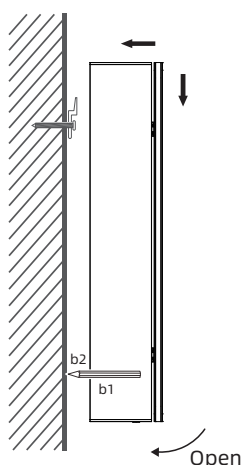

Fig. 3
- ① Attach the mirror cabinet to the bar as shown in Fig. 3, open the cabinet door, and mark on the wall (b2) with a pencil through the backplane hole (b1).
- ③ Repeat the operation as shown in Fig. 3 and mount the mirror cabinet to the bar, and then tighten the screws (Fig. 5).
- ④ Finally, turn on the main switch, and test if the switch works normally.